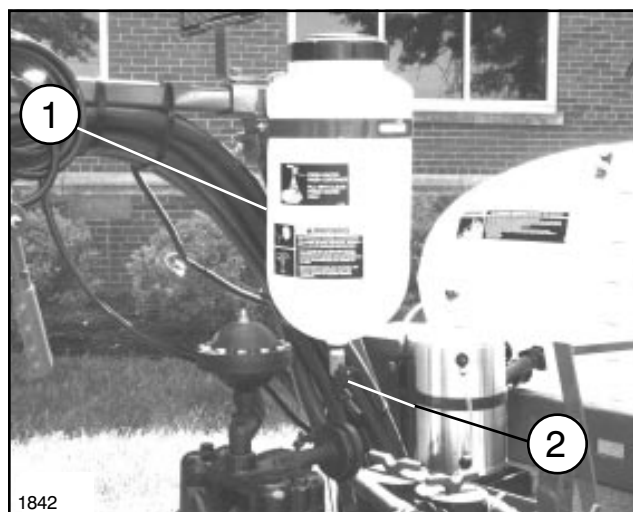

FIG. 7
1. Turn Tank Spigot to on position. (See FIG. 7)